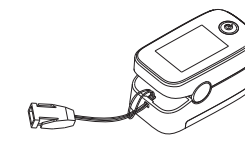

Figure 3 Lanyard Installation
B. Pass the thicker end of the lanyard through the thinner end and tighten the lanyard (Figure 3).